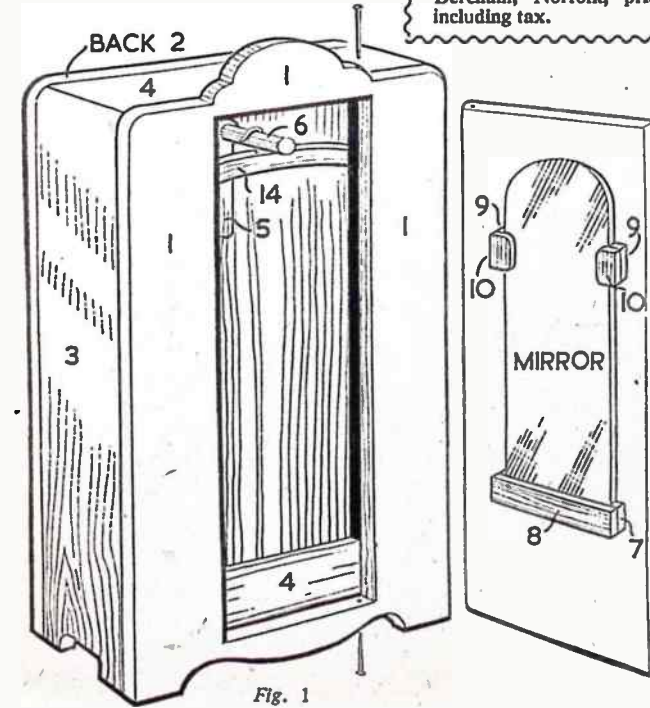

Fig. 1
To assemble, fit the top and floor to the sides, and then add the back and front. Glue and fret pins should be used to get a firm finish. To the inside back is glued piece (5), into which in turn is glued a piece of ¼in. round rod which goes right through into the back itself. This assembly forms the rail for the coat hangers, and details of this part and the remainder of the assembly can be seen in the constructional drawing Fig. 1.
Round off the right-hand edge of the door and drill holes to take two pivot pins, one top and one bottom. These pins can be either ¼in. fret pins or ordinary household pins, and their method of use can be clearly seen by reference to the design sheet and Fig. 1.